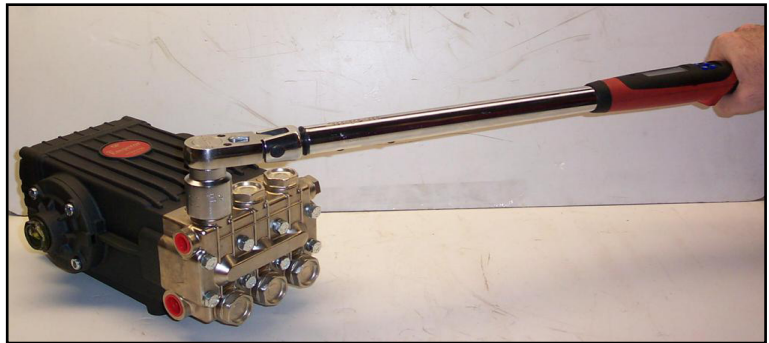

Figure 4. Replace Valve Cap and Torque to 95 ft. lbs.
9. Replace valve cap and torque to 95 ft. lbs (see Figure 4).